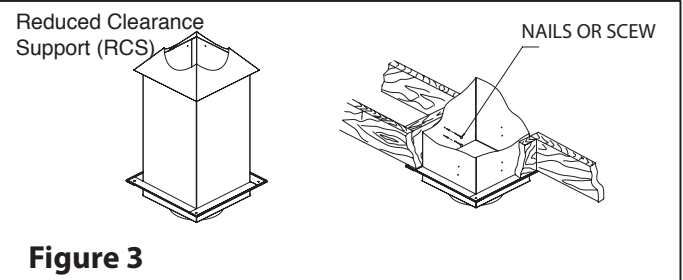

Figure 3
Step 3: From below, push the Reduced Clearance Support (RCS) into the framed opening in the ceiling. Ensuring the support is level, nail the support to the framed opening using (12) - 3" spiral nails or #8 x 1 1/2" wood screws (see Figure 3). At least 3 1/2" of the support must extend into the room. Screw the Finish Trim (included) to the ceiling.